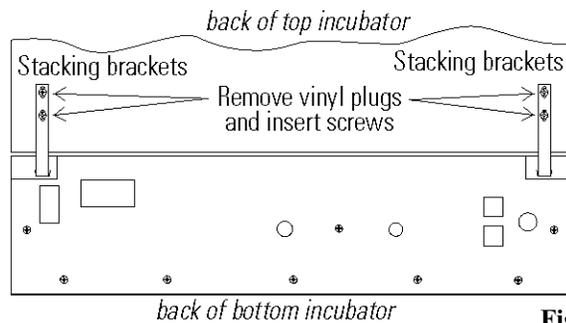

Figure 1-6
5. Align the sides of the top unit with the bottom unit and slide the top unit forward until the notches in the base of the top unit align with the (2) slotted screws in the top of the bottom unit.
7. Insert the stacking brackets into the slots on the back of the control panel of the bottom unit (Figure 1-6).